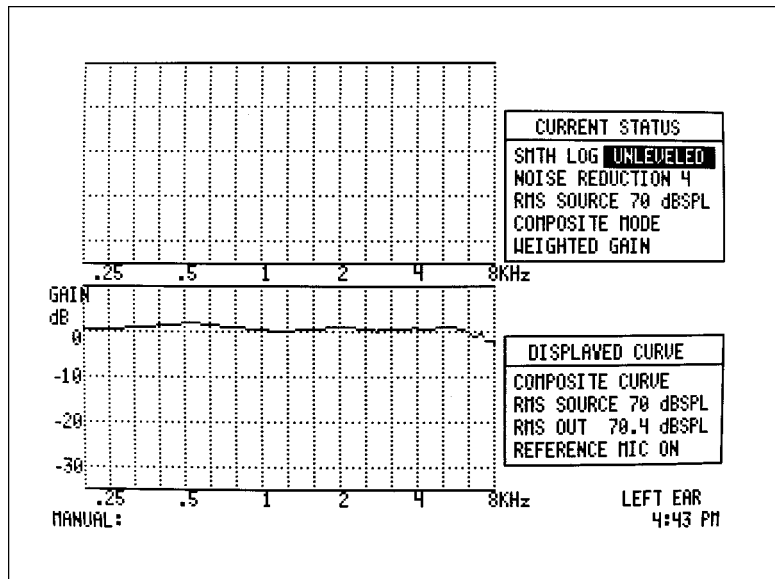

Figure 2.6.6—Holding probe and reference mics together
3. Since the responses of the reference and probe microphones should be within 2 dB of each other, the GAIN curve (difference curve) on the screen should be very close to horizontal at the 0 dB line. If this is not the case, one or both microphones need recalibration. See Figure 2.6.6.